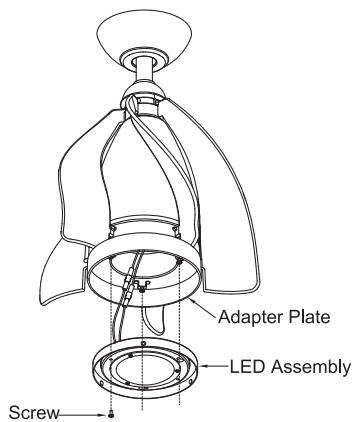

Fig. 23
Step 3. Tuck the connections neatly into the LED assembly. Align the key holes on the LED assembly with the 2 screws on the adapter plate. Turn the LED assembly until it locks in place at the narrow end of the key holes. Securely by tighten all three screws. (Fig. 23)